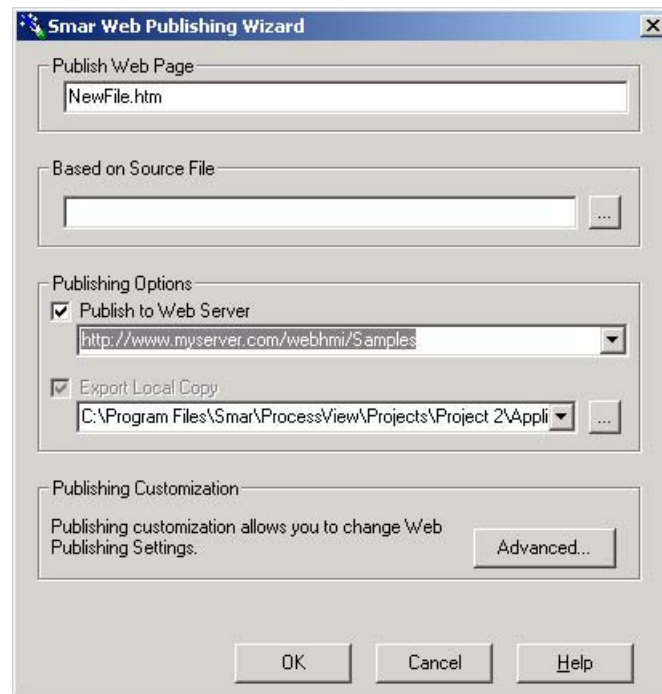

Figure 4.37. Publishing a Display File to a Web Server
2. This launches the Web Publishing Wizard, as shown in **Figure 4.37**. In the **Based on Source File** field of the Web Publishing Wizard, you must specify the name of the GraphWorX display (.gdf) file to be published, as shown in Figure 4.37. To choose a display, click the ... button to the right to browse for a file. Select a file and then click **Open**. The directory path and the file name are shown in the text field.
4. In the **Publishing Options** field, check the **Publish to Web Server** check box and type in the URL address of your Web server with the complete directory indicating where you want to publish the HTML file, as shown in Figure 4.37. In the sample Web server URL address shown above ("http://www.myserver.com/WebHMI/Samples"), the various components are: